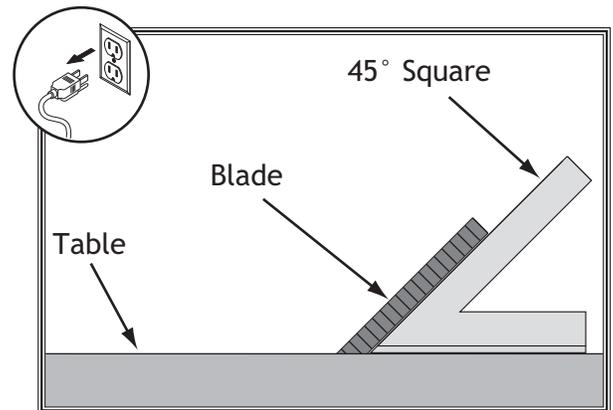

Figure 104. Checking blade at 45°.
3. Place a 45° square against table and blade so it contacts blade evenly from bottom to top, as shown in **Figure 104**. Make sure a blade tooth does not obstruct placement of square.
6. Place a 45° square against blade, as shown in **Figure 104**, then adjust blade until it is exactly 45° to table.